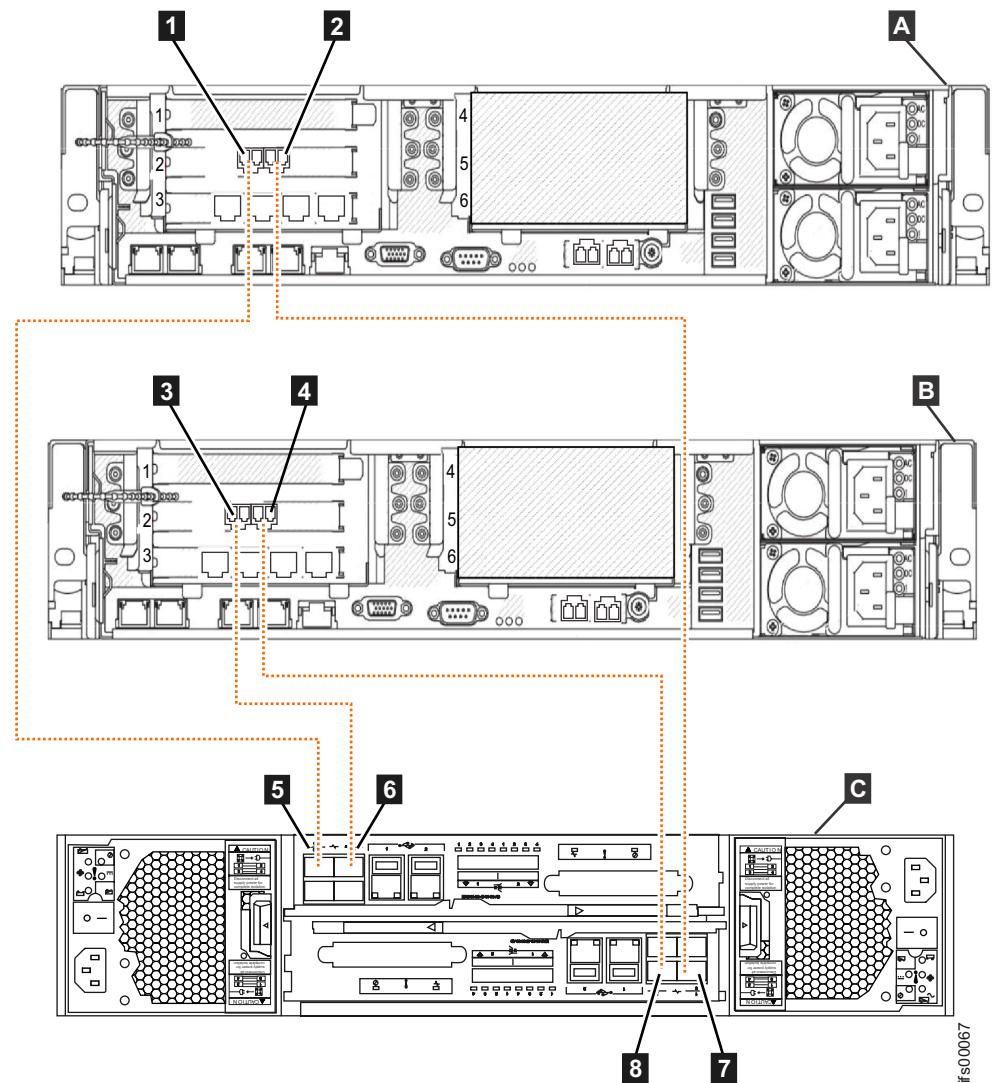

Figure 40. Connecting the file modules to the control enclosure using Fibre Channel cables.
- Before continuing, make sure that you have connected the Fibre Channel cabling as shown in Figure 40 to ensure proper redundancy. Incorrect cabling may result in a loss of service during system maintenance procedures.